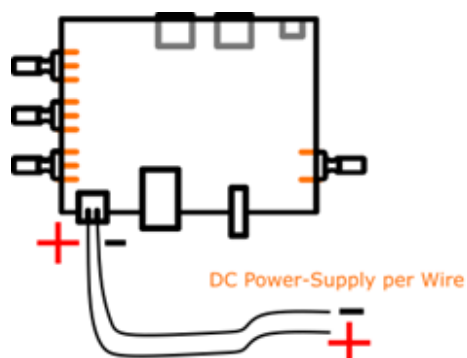

Figure 10: DC Power-Supply per Wires
The third option for power supply is via wires (see Figure 10). Please take care of the polarity (+/-) and the allowed nominal voltage-range of **12V – 24V**. The absolute maximum voltage range is 9V – 36V.
- **Power-Supply per Wires:** As already described in Figure 10, the module can be powered with DC-voltage (Nominal: 12V – 24V, Max: 9V – 36V) via wires.